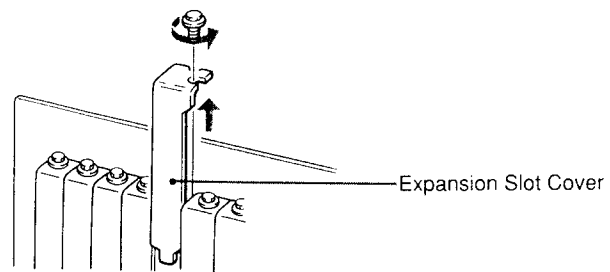

Figure 3-1. Removing the Expansion Slot Cover
- 1 Remove the screw from an empty expansion slot cover. Then remove the cover (see Figure 3-1).